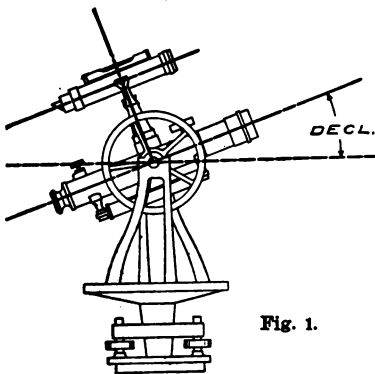

Fig. 1.
1. Incline the transit telescope until the angle of declination, corrected for refraction, is indicated by the vertical circle or arc, depressing the telescope if the sun's declination is north, and elevating it if it is south. See Fig. 1.